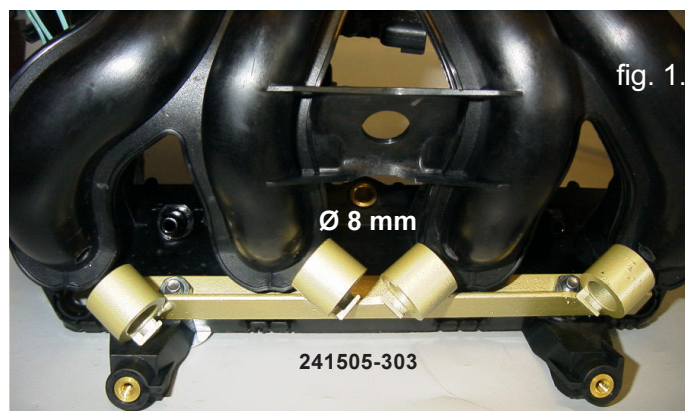

fig. 1.
- Mount the drilling jig (241505-303) on the inlet manifold mounting flange using 2 M8 bolts. Drill 4 holes \varnothing 8 mm. See fig.1. Use a drilling bush in the jig when drilling.